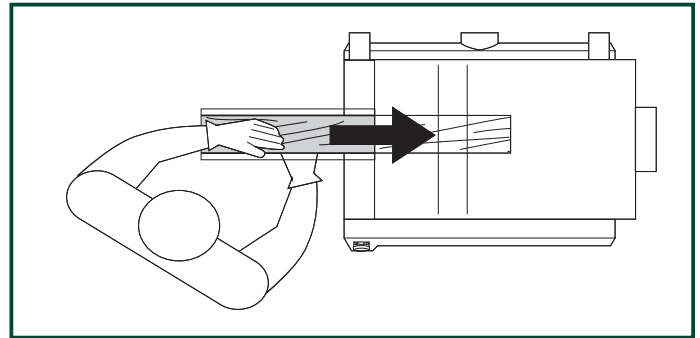

FIG. 8
1. To feed the workpiece into the machine, assume proper operating position, FIG. 8. Stand offset to one side of the feed opening to avoid any kick-back, should it occur. Do not push the lumber once the infeed roller has been engaged. Let the infeed roller move the workpiece into the planer at its own pace.